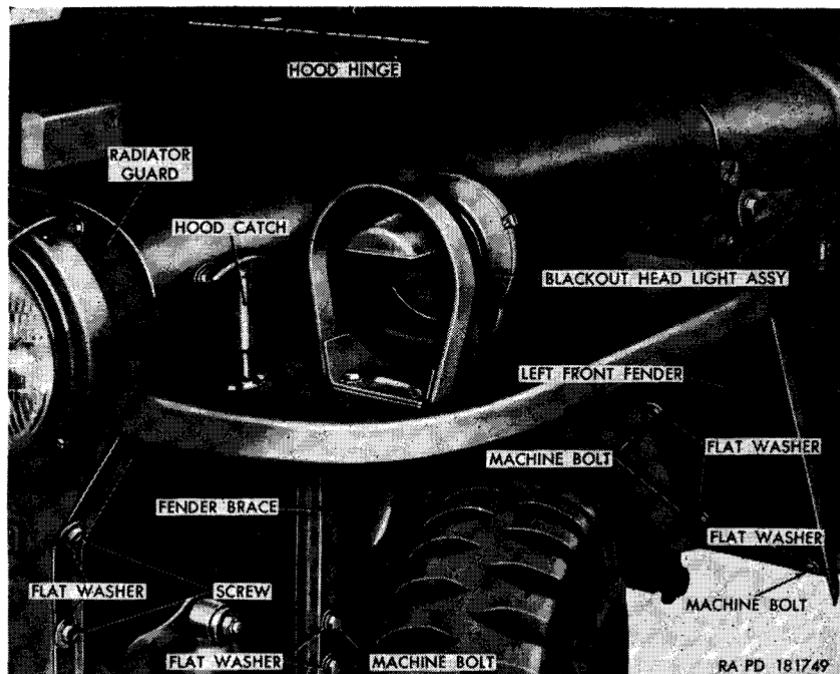
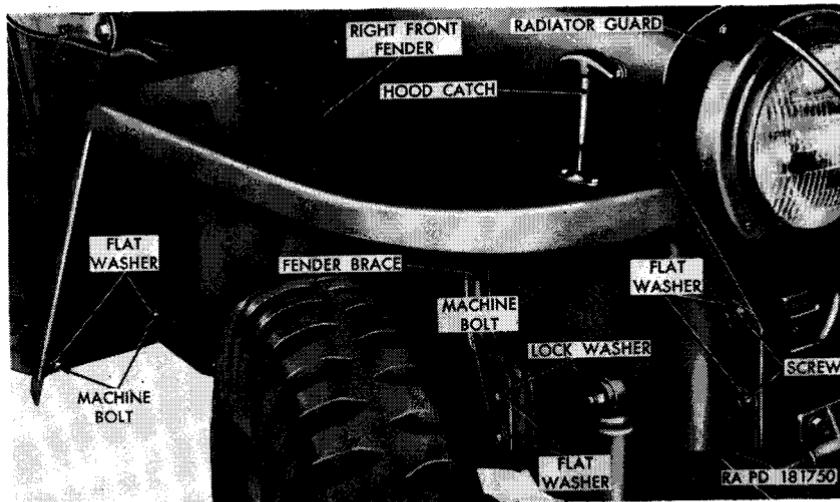
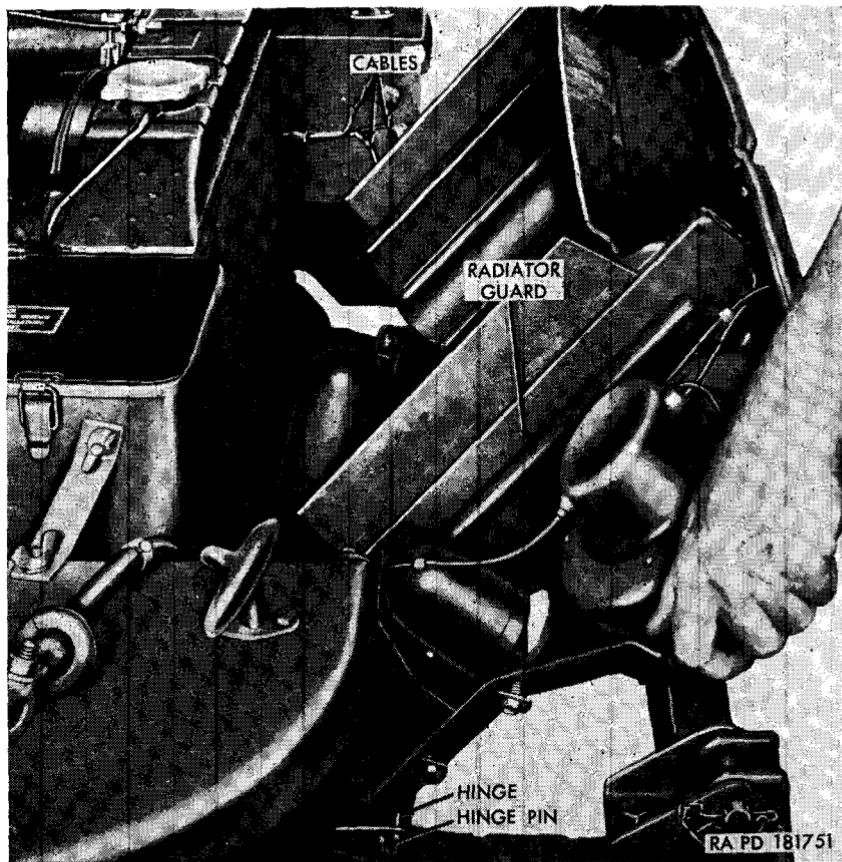

Figure 127. Hood and left front fender.
Figure 128. Right front fender.
Figure 129. Removing radiator guard.
(fig. 127)
- (1) *Left front fender* (fig. 127). Raise the hood and rest it against the windshield frame. Remove blackout headlight (par. 158). Remove horn (par. 185). Unhook the cables from the five clips on the fender and splasher. Remove the bolts, lockwashers, and nuts from the clips holding the hand brake cable and fuel line to the fender splasher. Remove the four bolts, lockwashers, and flat washers securing the rear of the left front fender to the body. Remove the two bolts, lockwashers, and flat washers
- (2) *Right front fender.* Raise hood and rest it against windshield frame. Remove the bolt and plain nut securing the clip for the battery-to-battery cable (fig. 68) to the fender and pull clip and cable away from fender. Remove the wing nuts and lockwashers securing the battery box-to-fender straps (fig. 68) to the fender. Remove the three screws, and flat washers securing the fender to the radiator guard (fig. 128). Remove the two bolts, lockwashers, and flat washers securing the fender brace (fig. 128) to the frame. Remove the three bolts, lockwashers, and flat washers (fig. 128) securing the rear of the fender to the body and pull fender to the right and remove.
- (1) *Left front fender* (fig. 127). Position the fender on the body, alining the mounting holes with the mounting holes in the body, frame, and radiator guard. Secure the fender brace to the frame with two $\frac{3}{8}$ -inch lockwashers, $\frac{7}{16}$ -inch flat washers, and $\frac{3}{8} \times \frac{3}{4}$ bolts. Secure the rear of the fender to the body with four $\frac{5}{16}$ -inch lockwashers, $\frac{7}{16}$ -inch flat washers, and $\frac{5}{16} \times \frac{5}{8}$ bolts. Secure the front of the fender to the radiator guard with three $\frac{5}{16}$ -inch flat washers and $\frac{5}{16} \times \frac{7}{8}$ screws. Install horn (par.
- (2) *Right front fender.* Position the fender on the body, alining the mounting holes with the mounting holes in the body, frame, and radiator guard. Secure the fender brace to the frame with two $\frac{3}{8}$ -inch lockwashers, $\frac{7}{16}$ -inch flat washers, and $\frac{3}{8} \times \frac{3}{4}$ bolts (fig. 128). Secure the rear of the fender to the body with three $\frac{5}{16}$ -inch lockwashers, $\frac{7}{16}$ -inch flat washers, and $\frac{5}{16} \times \frac{5}{8}$ bolts (fig. 128). Secure the front of the fender to the radiator guard with three $\frac{5}{16}$ -inch flat washers and $\frac{5}{16} \times \frac{7}{8}$ screws (fig. 128). Position the battery box-to-fender straps over the bolts in the fender. Install two $\frac{5}{16}$ -inch lockwashers and $\frac{5}{16}$ -inch wing nuts on the bolts. Position the battery-to-battery cable and clip against the fender and secure in position with a No. 10 x $\frac{5}{8}$ bolt and No. 10 plain nut.
a. *Removal.* Open the hood and disconnect the headlight and blackout marker light cables (fig. 129) at the left side of the vehicle. Loosen the six screws and flat washers securing the radiator guard to the right and left front fenders (figs. 128 and 127). Tilt the guard forward until slots in hinges are alined with hinge pins and lift guard (fig. 129) off vehicle.
b. *Installation.* Place the radiator guard in position at the front of the vehicle. Aline the slot in hinges with hinge pins (fig. 129) and lower guard onto hinge pins. Raise the guard into position, entering the six screws into the slots in the fenders with the washers between the screw heads and the fenders. Tighten the six screws securing the guard to the fenders (figs. 127 and 128). Connect the headlight and blackout marker light cables (fig. 129) at the left side of the vehicle.